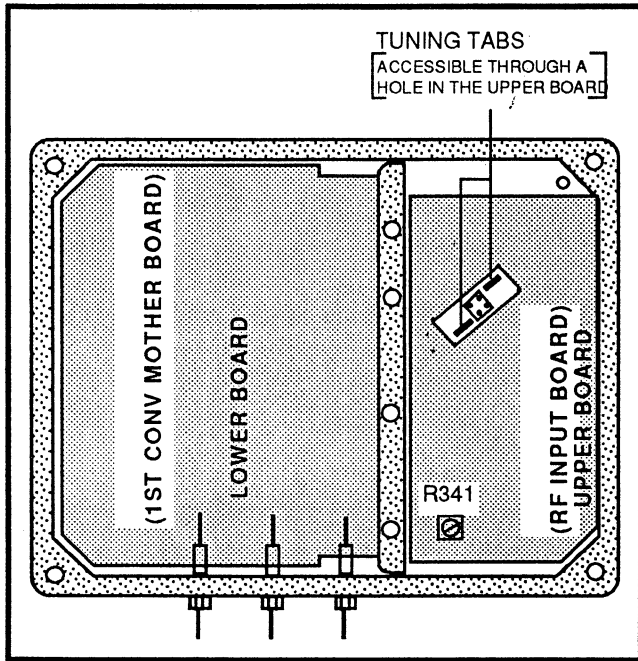

Figure 4-7. 1st Converter adjustment locations.
c. Adjust R341 (Bias) and Tuning Tabs (Figure 4-7) in the 1st Converter assembly for a start spur less than -10 dBm. Typically, the start spur peak is on-screen at this reference level setting.